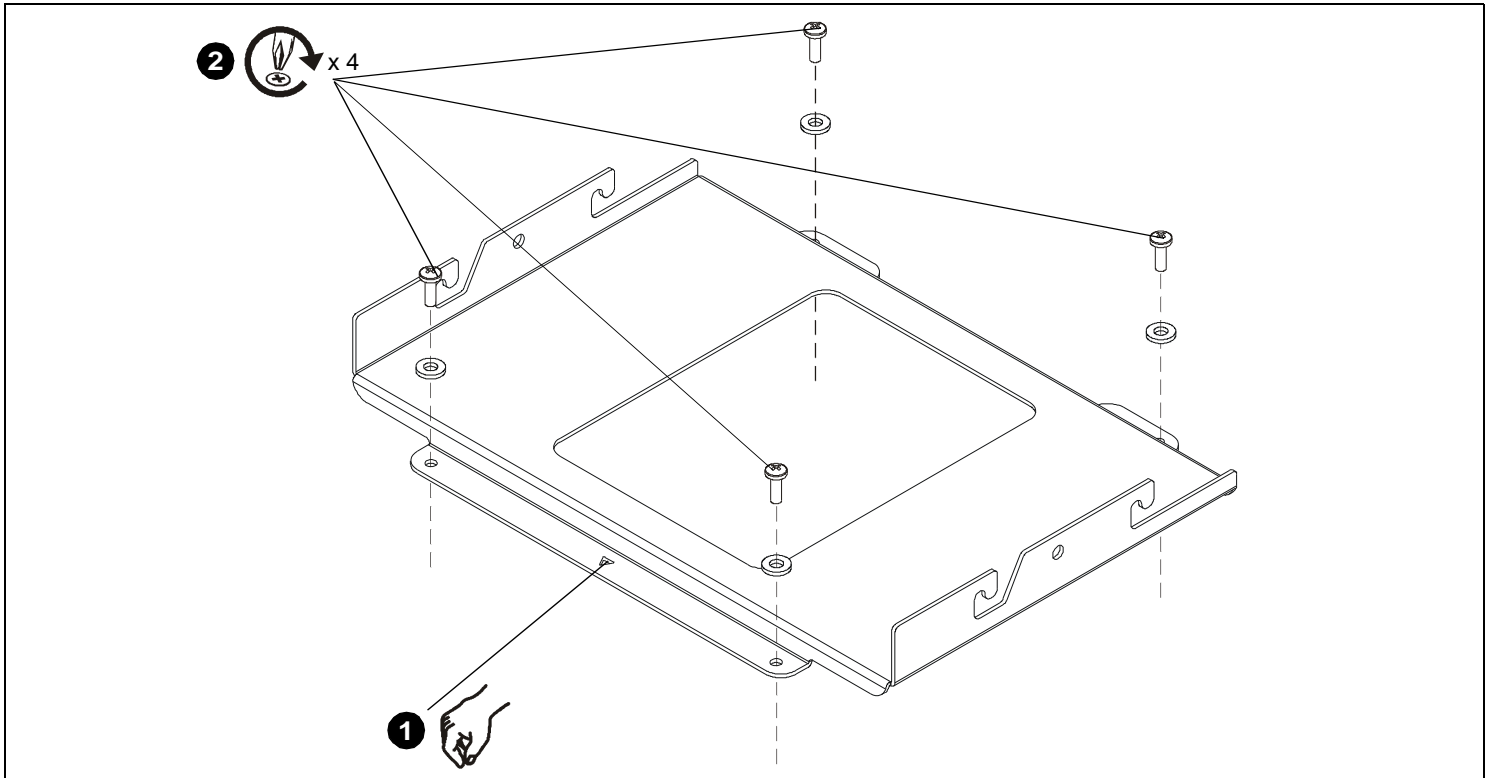

Figure 1
1. Lower custom HB bracket onto top of projector. Ensure that triangle in bracket points toward front of projector. (See Figure 1)
2. Attach HB bracket to projector using four M6 x 16mm Phillips pan head screws through four holes in the HB bracket. (See Figure 1)